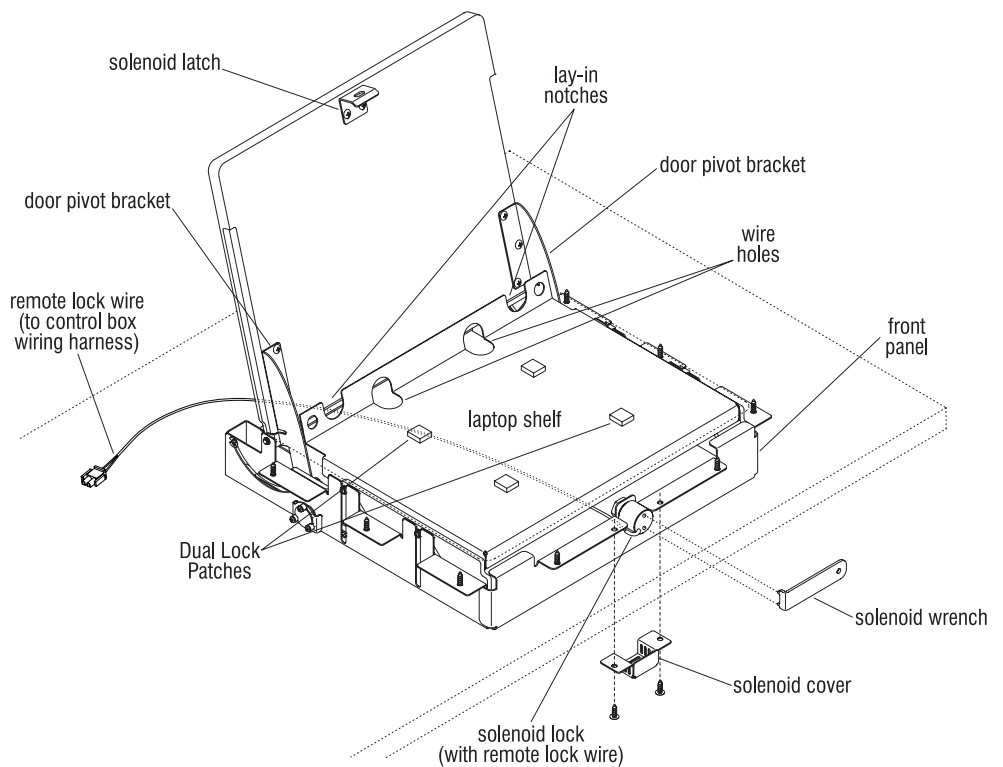

Figure 2
3. The installed Laptop Garage unit has a remote lock wire which runs from the solenoid lock at the front (Figure 2), goes under the shelf of the unit, and out the back of the Laptop Garage unit. Locate that remote lock wire and plug it into one of the two female plug-ends of the control box wiring harness. If the desk has a second Laptop Garage unit, attach its remote lock wire into the second female plug end of the control box at this time (Figures 1 & 2).
5. The solenoid latch on the door, or the lock solenoid in the front panel can be adjusted if necessary to ensure the top of the door is flush with the top of the worksurface when closed and that the lock pin engages the latch properly. To adjust the latch, loosen the two wood screws that attach it to the door (Figure 2), and slide toward front or back of door, then re-tighten screws. To adjust the height of the solenoid lock, remove the two screws attaching the solenoid cover to the front cover and worksurface. Use the solenoid wrench and an adjustable wrench, loosen the lock solenoid nut and adjust the lock up or down. Retighten the nut and replace the solenoid cover (Figure 2).
Note: It is important that all wiring and cables be routed appropriately to avoid interference with Laptop Garage mechanism and cause damage. Dual lock patches (Figure 2) will also help to stabilize and locate the laptop computer inside the Laptop Garage unit while still allowing easy removal when required.
1. Open the Laptop Garage per the previous instructions. Peel the adhesive protection off one side of the dual lock patch (Figure 2) and install to a flat location on a bottom corner of the laptop computer. Remove the adhesive protection from the underside of the dual lock patch and carefully position the laptop computer onto the Laptop Garage shelf so it will not interfere with the unit's opening or closing. Next, lift the laptop computer up, splitting the one fully-secured dual lock patch between the shelf and the computer and remove the adhesive protection from the remaining three dual lock patches. Carefully set the laptop computer back into its correct position and press down firmly to seat the dual lock patches to the shelf (Figure 2).
2. Laptop power and data wiring can now be run through the holes or lay-in notches in the laptop shelf (Figure 2). Ensure that no wires are directly below the laptop shelf or near the door pivot brackets on each side. Secure extra wiring to the underside of the worksurface or unit with nylon wire ties or place in electrical beam of desk.